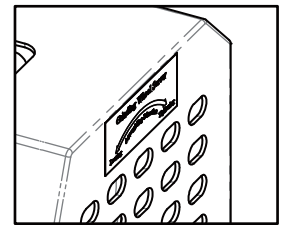

Fig. 10-1
- ① Unplug the power cord and make sure the power is off.
- ② Confirm the screw direction on the grinding wheel cover before changing the grinding wheel. (Fig. 10-1)